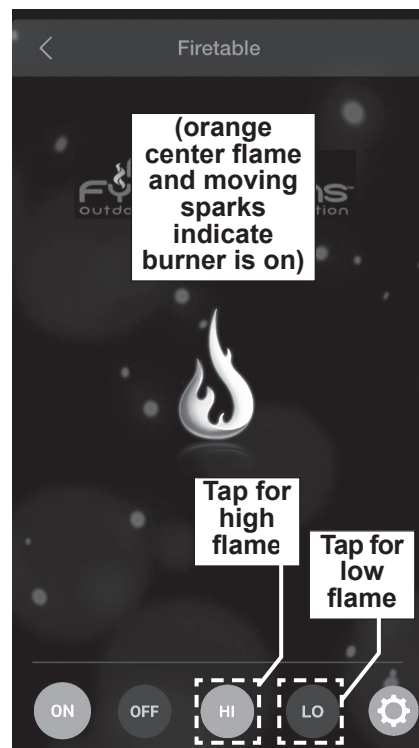

Fig. 48-1 Remote Operation:
1. Locate the control panel on the side of the unit (refer to the IDENTIFICATION PARTS LIST if needed), and identify the **AUX CONTROL** and **POWER** buttons (see Fig. 48-1).
3. From within the app, proceed to the Devices screen and select your unit. The remote screen will appear. See Fig. 48-1.
4. Tap the **ON** icon found on the bottom left of your remote screen (see Fig. 48-1).
The flame height can be adjusted via the remote app. Tap the **HI (high)** button to increase the flame height. Tap the **LO (low)** button to decrease the flame height. See Fig. 48-1. (LO setting available after 60 seconds.)
To shut down the burner (system will remain on), tap the **OFF** icon found on the bottom left of your remote screen. The screen will no longer display the orange center flame and moving sparks. See Fig. 48-1. The **AUX CONTROL** button indicator light will also go off.
To shut down the burner and system (total shutdown), or if the remote app is unavailable, push the **POWER** button on the control panel. See Fig. 48-1. The **POWER** and **AUX CONTROL** button indicator lights will go off. (Fully power off when covering or when not in use.)